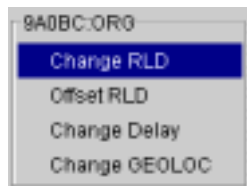

Figure 5.50 Lozenge Commands
4. Right-click the node of the RLN that is having its RLD offset. A menu of lozenge commands for the corresponding node opens, and the Change RLD command is highlighted (Figure 5.50).